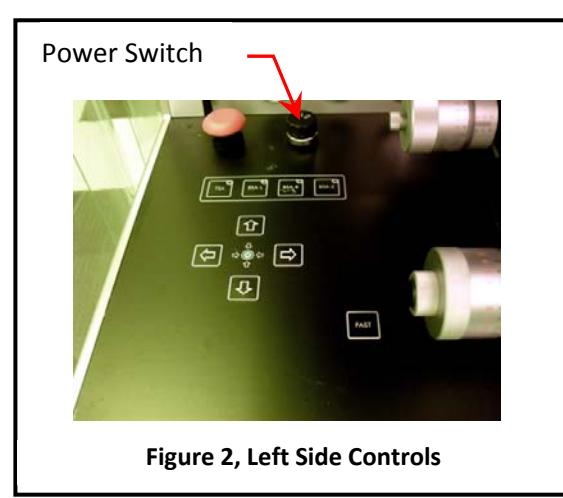

Figure 2, Left Side Controls
6.2.1 Turn on black knob with 0/1 written on it, on left side of machine. See *Figure 2, Left Side Controls*.